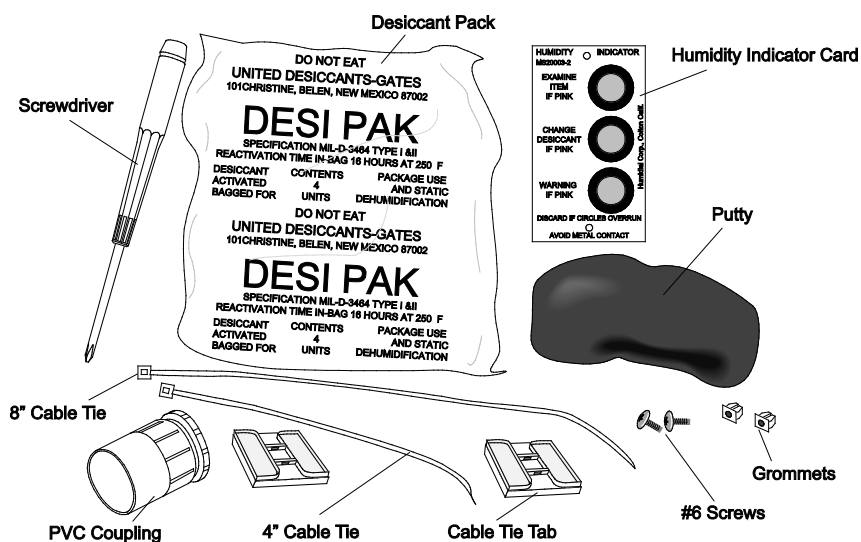

FIGURE 3-1. Enclosure supply kit contents
- Locate the enclosure supply kit (FIGURE 3-1) and ensure all its components are present:
- #6-32 x 0.375 in screws (4)
- Grommets (4)
- 3 cm cable-tie tabs (2)
- 4 in cable ties (6)
- 8 in cable ties (2)
- Humidity indicator card (1)
- 4 oz container of sealing putty (2)
- 4-unit desiccant packs (2)
- Phillips screwdriver (1)
- PVC coupling (1)